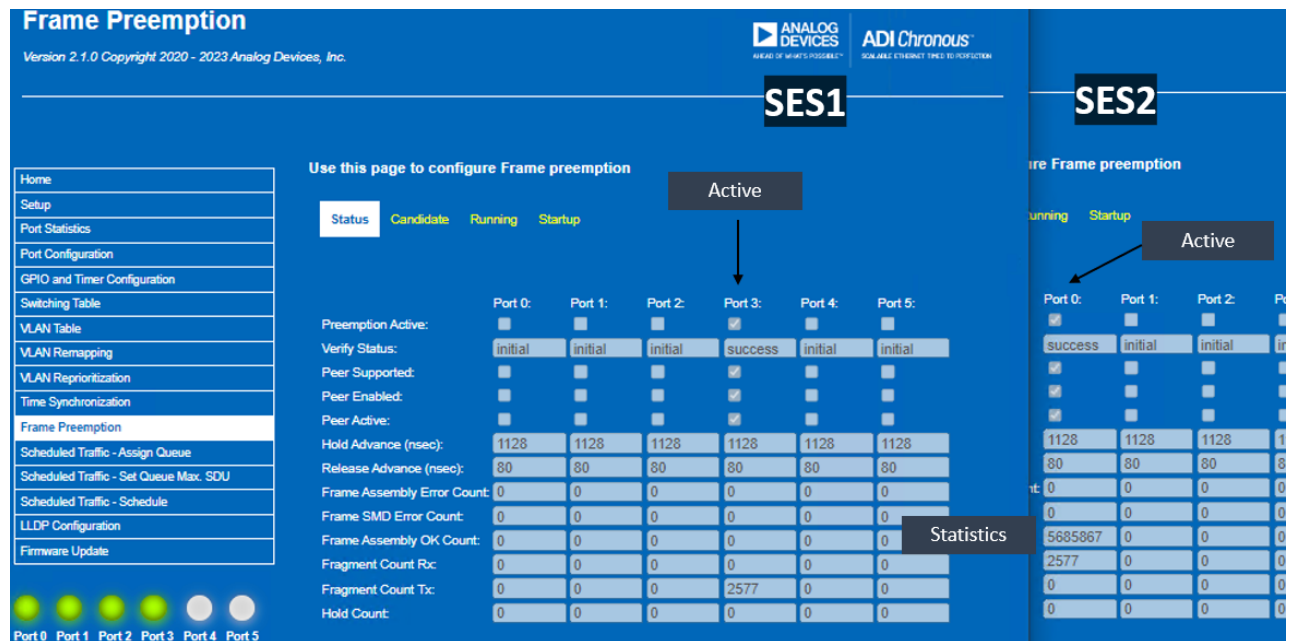

Figure 71. Status View with Preemption Enabled and visibility into Statistics
- ▶ Enabling Preemption in Switch 2 allows preemption to become active as shown in Figure 71.